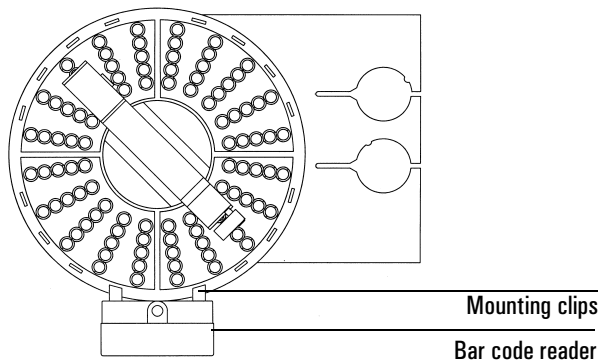

Figure 7 Mounting location for the bar code reader
3. Install the new bar code reader. See Figure 7.